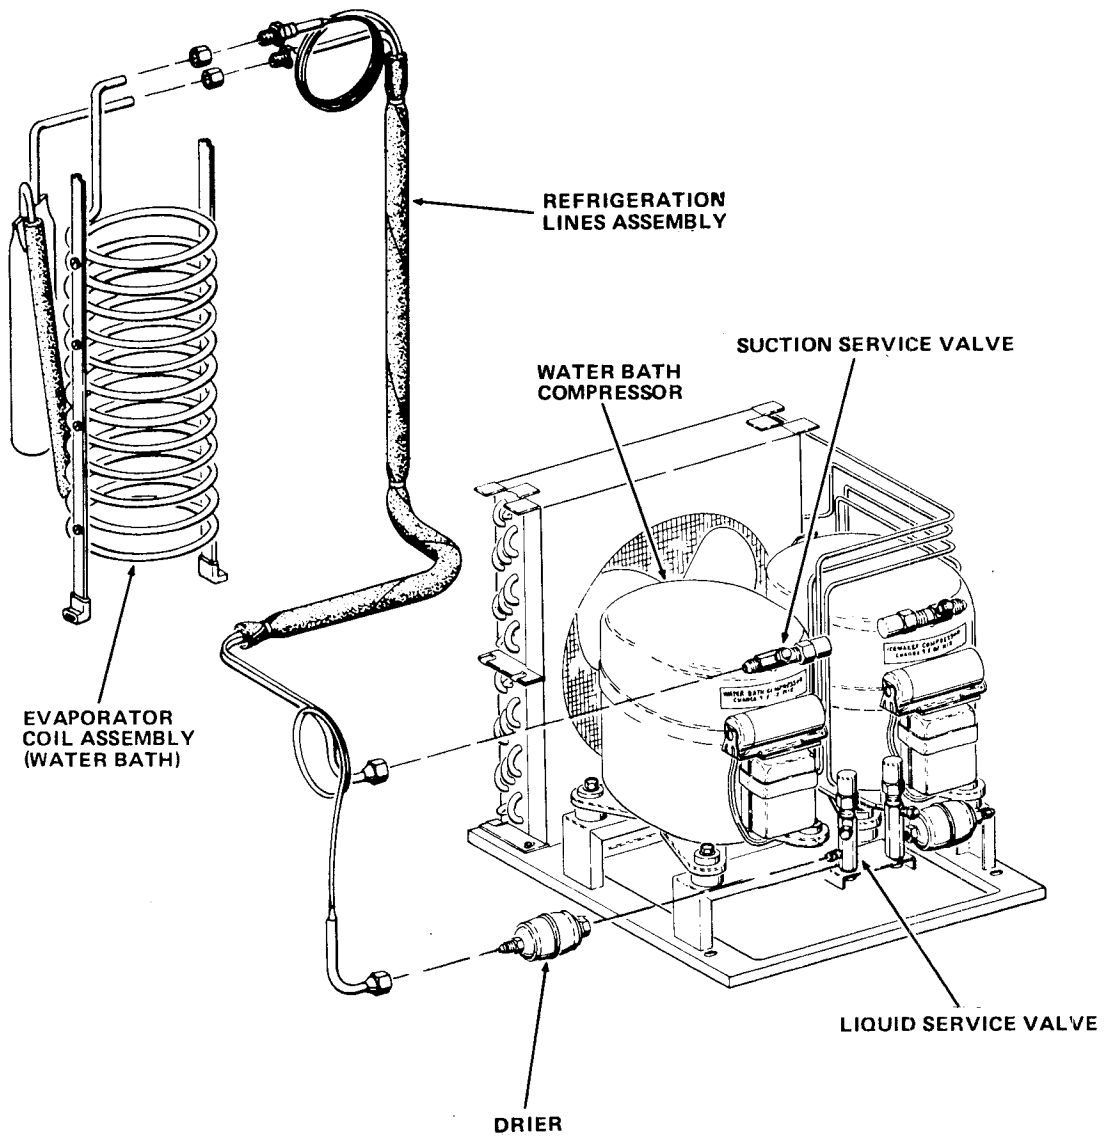

FIGURE 4
27. Disconnect the Refrigeration Capillary Line from the Evaporator Coil Assembly in the Water Bath Assembly. See Figure 4.
28. Disconnect the Refrigeration Suction Line from the Evaporator Coil Assembly. See Figure 4.
42. Disconnect the Refrigeration Suction Line from the Suction Service Valve on the Water Bath Compressor. See Figure 4.
43. Disconnect the Refrigeration Capillary Line from the Drier and remove the Water Bath Refrigeration Lines Assembly from the Merchandiser. See Figure 4.